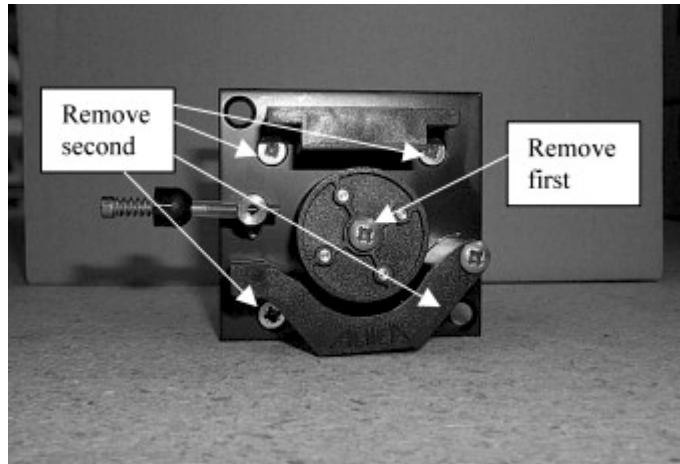

Figure 1-19 Front of pump on bracket
22. To remove pump plate from the new pump first remove the screw that holds the roller head assembly, behind the roller head there will be a small pin on the shaft of the motor remove it and keep the pin for installation. Then remove the outer 4 screws that are shown in figure1-19. Keep 2 of screws for installation to chassis.